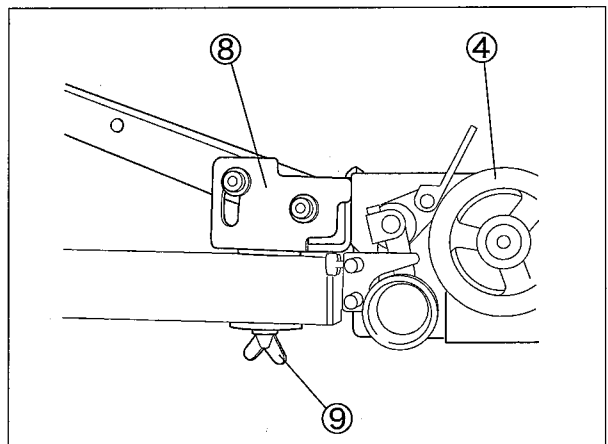

Fig. 2-20
○ Loosen the wing bolt ⑨ of tape feeder bracket ⑧, and adjust the tape feeder ④ to make tape feeding and sewing head toward the same direction. (Fig. 2-20)